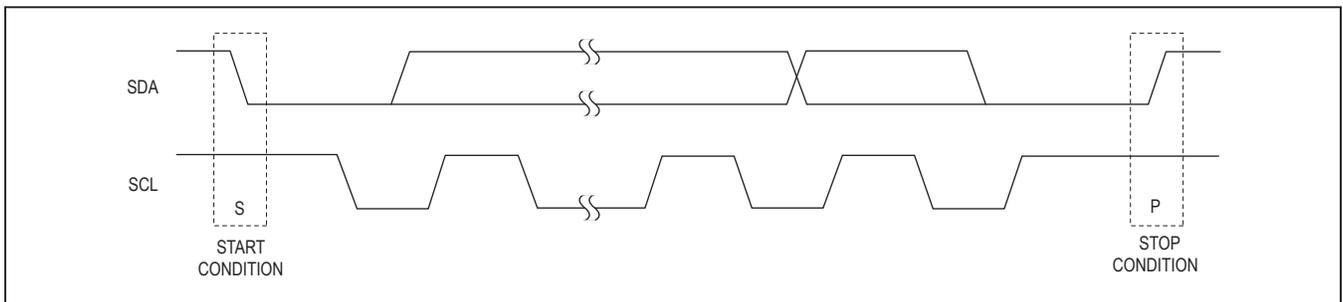

Figure 4. START and STOP Conditions
The IC operates as a slave device that sends and receives data through an I²C-compatible 2-wire interface. The interface uses a serial-data line (SDA) and a serial-clock line (SCL) to achieve bidirectional communication between master(s) and slave(s). A master (typically a microcontroller) initiates all data transfers to and from the IC and generates the SCL clock that synchronizes the data transfer. The SDA line operates as both an input and an open-drain output. A pullup resistor is required on SDA. The SCL line operates only as an input. A pullup resistor is required on SCL if there are multiple masters on the 2-wire interface, or if the master in a single-master system has an open-drain SCL output. Each transmission consists of a START (S) condition (Figure 4) sent by a master, followed by the MAX14592 7-bit slave address plus R/\bar{W} bit, a register address byte, one or more data bytes, and finally a STOP (P) condition.
Both SCL and SDA remain high when the interface is not busy. A master signals the beginning of a transmission with a START condition by transitioning SDA from high to low while SCL is high (Figure 4). When the master has finished communicating with the slave, it issues a STOP